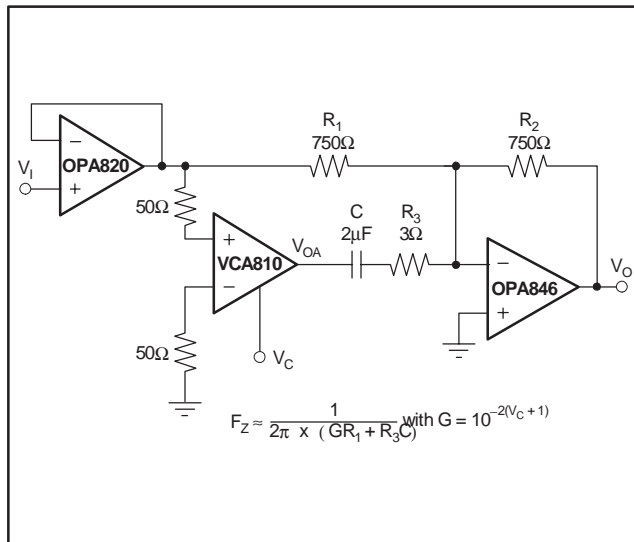

Figure 13. Tunable Equalizer
A circuit analogous to the above low-pass filter produces a voltage-controlled equalizer response. The gain control provided by the VCA810 of Figure 13 varies this circuit response zero from 1Hz to 10kHz, according to the relationship of Equation (4):
Adding the VCA810 as shown in Figure 13 permits amplification of the signal applied to capacitor C, and produces voltage control of the frequency  $f_z$ . Amplified signal voltage on C increases the signal current conducted by the capacitor to the op amp feedback network. The result is the same as if C had been increased in value to GC. Replacing C with this effective capacitance value produces the circuit control expression  $f_z = \frac{1}{2\pi \cdot R_1 \cdot GC}$ .